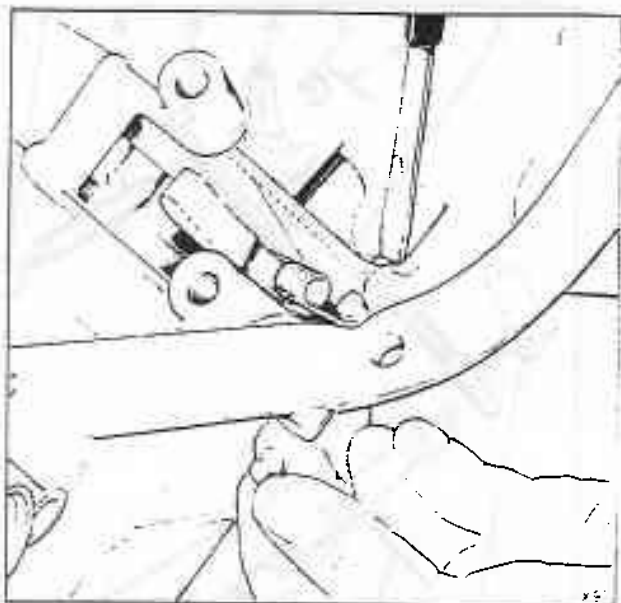

Fig. T17-2 Removing the cup plug
13. Remove the spring retainer from the parking pawl shaft. Remove the parking pawl shaft cup plug by placing a screwdriver between the parking pawl shaft and the casing; levering outwards (see fig. T17-2).